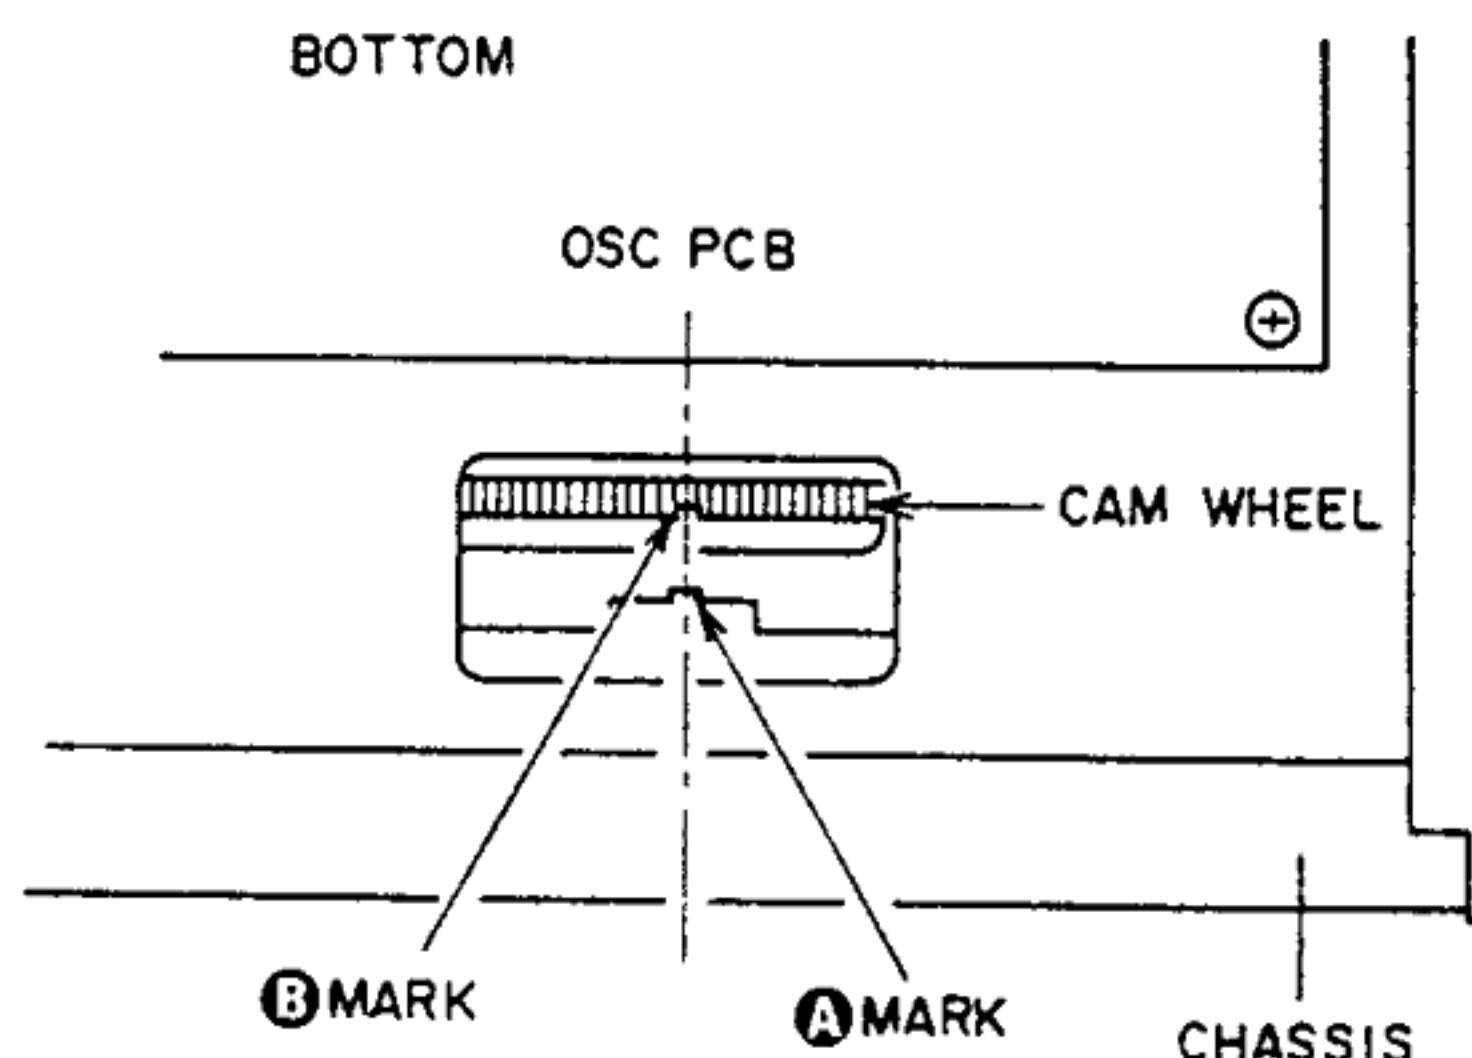

Fig. 4-2
- Adjust VR1 slightly so that the center of marker B coincides with the center of marker A in the STOP mode as shown on Fig. 4-2. (The marker B on the CAM WHEEL can be seen clearly by lighting it from the back.)